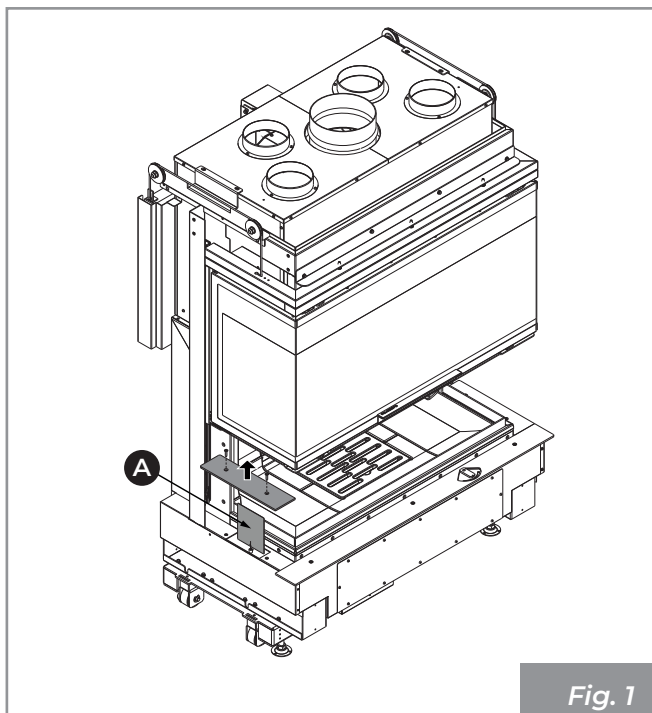

Fig. 1
The serial plate (A) is located under the cover profile of the ecomonoblocco (accessible by loosening the three screws and lifting the profile) (**Fig. 1**) and shows all the characteristic data relating to the appliance, including the manufacturer's data, the serial number and the brand **CE**.